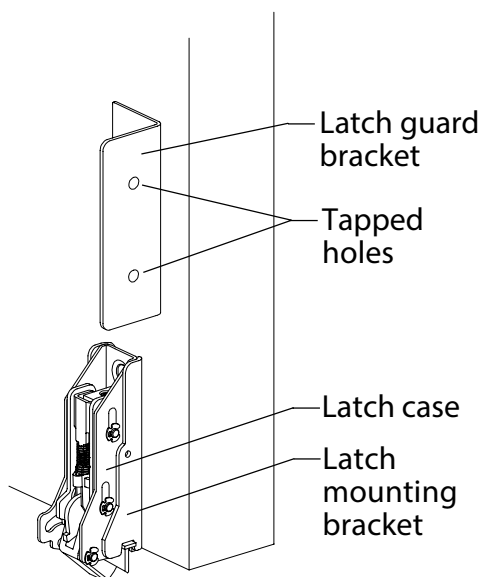
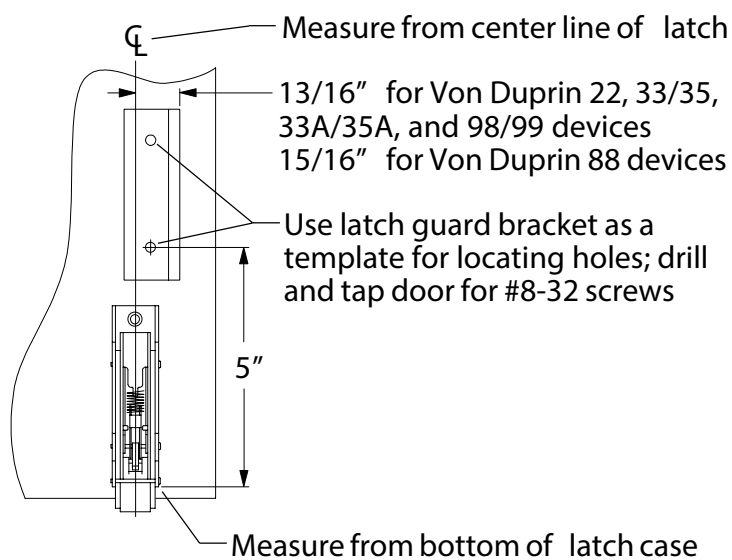

Figure 2
Figure 3
- 3 Locate and install latch guard bracket with two #8-32 screws (Figure 2 and Figure 3).